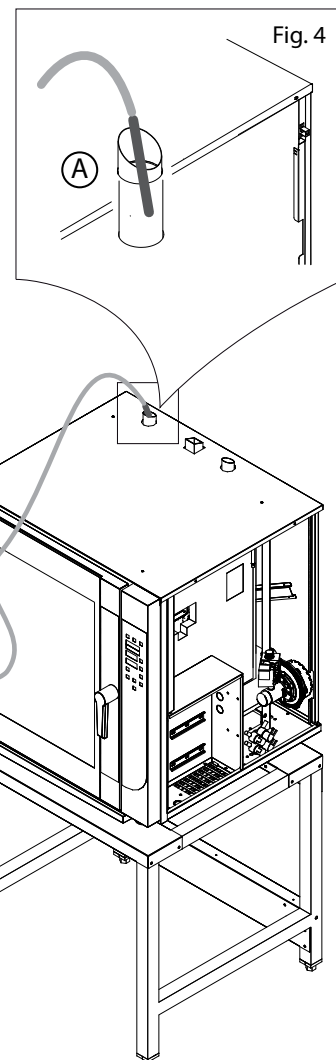

Fig. 4
- Insert the CO-CO₂ reading tool probe by approximately 5-10 cm inside the combustion flue gas outlet (Fig. 4 A)
The adjustments should always be performed with the CO-CO₂ reading tool probe inserted for approximately 5-10 cm in the combustion flue gas outlet to check the values (Fig. 4 A).